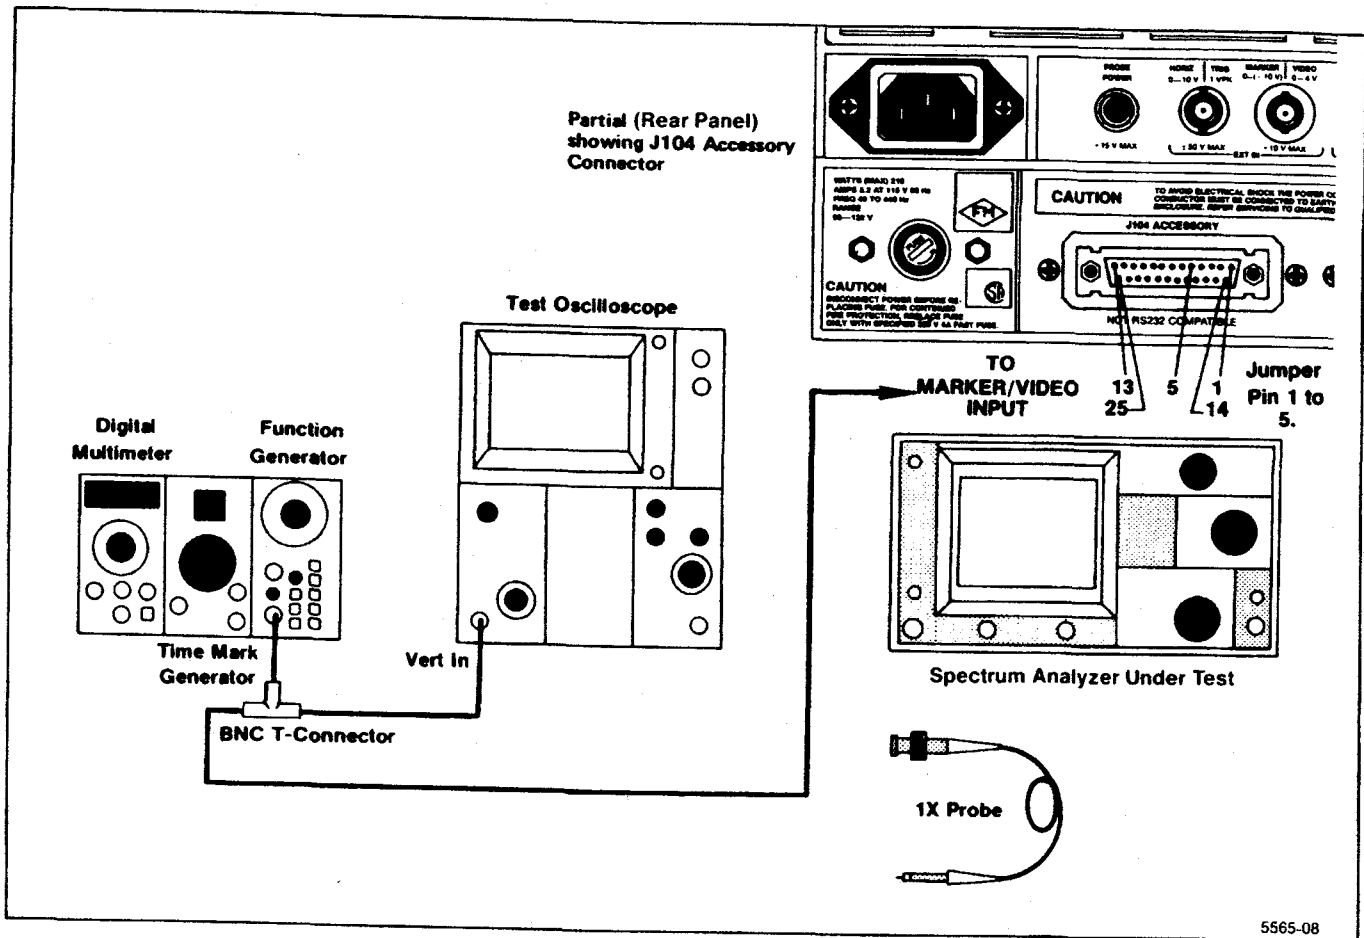

Figure 5-4. Test equipment setup for adjusting the Deflection Amplifier.
When adjusting Option 42 instruments, the output of the Function Generator must be connected to the PEN LIFT connector at the rear of the instrument, rather than as shown in Figure 5-4. Be sure to ground pin 1 of the ACCESSORIES connector when using the PEN LIFT connector in this manner.
- a. Connect the test equipment as shown in Figure 5-4. Set the TIME/DIV to 1 ms.